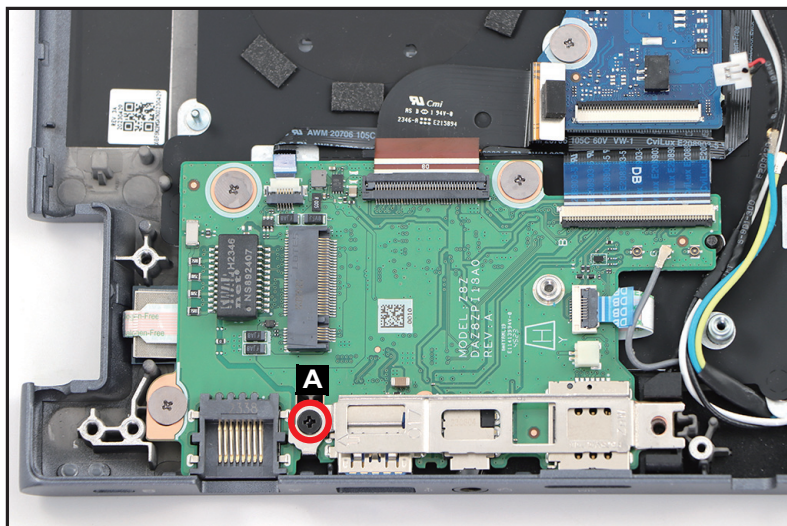

Figure 1-39. LTE Board Removal
1. Remove one (1) screw (A) securing the right I/O bracket in place (Figure 1-39).